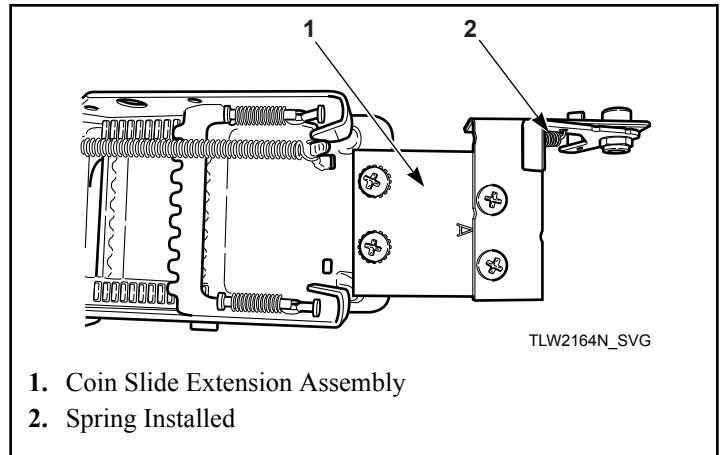

Figure 39
6. Install coin slide extension assembly onto top of coin slide using two remaining screws and lockwashers. Place lockwasher under head of screws, above bracket "A". Refer to *Figure 39* .
3. Install slide extension onto top of coin slide using two screws. Refer to *Figure 39*.